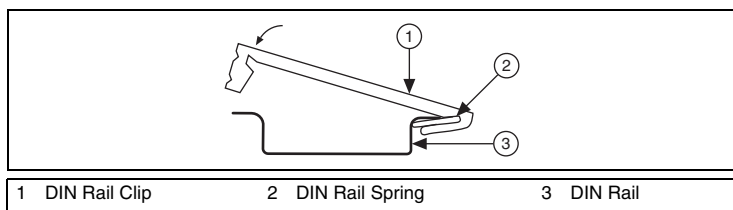

Figure 3. DIN Rail Clip Parts Locator Diagram
2. Clip the device onto the DIN rail as shown in Figures 3 and 4.
2. Clip the device onto the DIN rail as shown in Figures 3 and 7.